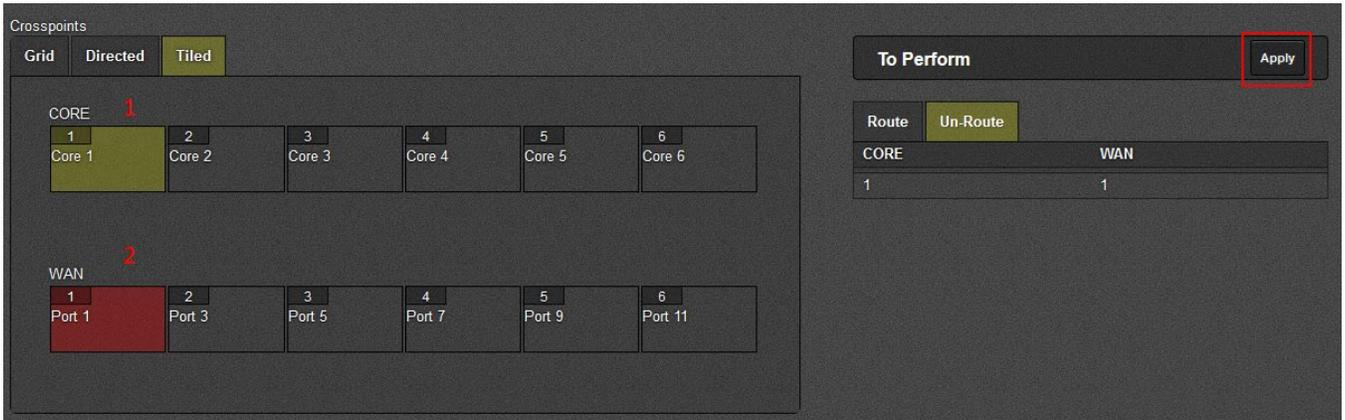

Figure 4-28 : WebEASY® - Link Aggregation\Directed View\Removing Links in Tiled
To unlink a port from a core, as shown below in Figure 4-28, select the tile for the respective core, the port currently linked to that core will become highlighted in beige green (the same color the core is highlighted). Next, with the core tile selected, select the highlighted port tile. If it is queued to be un-routed, it will appear red (2) and appear in the 'Un-Route' table in the 'To Perform' menu.